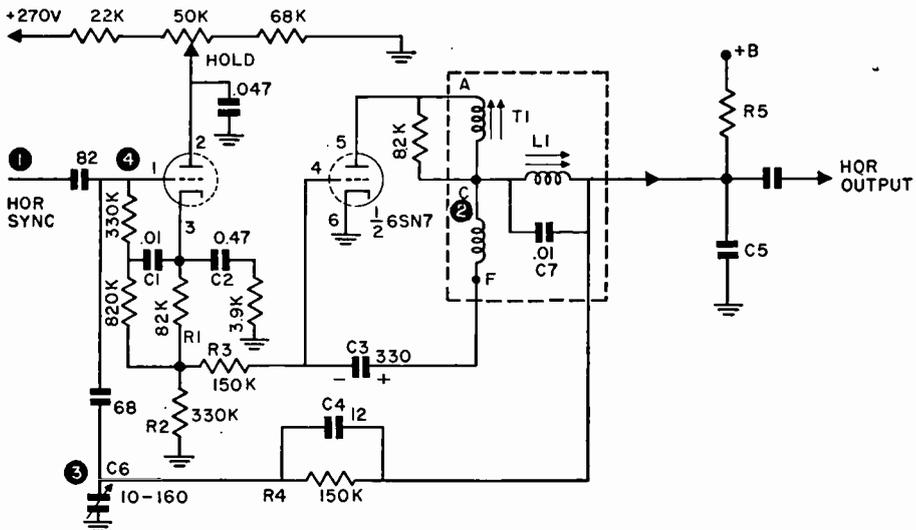
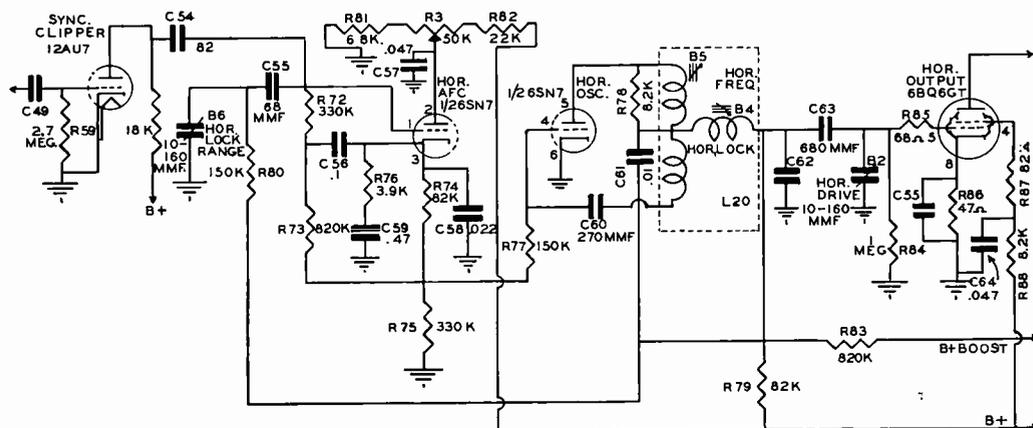

FIG. 1. A typical pulse width horizontal oscillator-afc system.
FIG. 3. Horizontal oscillator-afc section of Admiral Model 19F1.
As every serviceman knows, one of the more common trouble spots in a television receiver is the horizontal oscillator-afc stages. Although various types of circuits are used in these stages, one of the most popular is the pulse width or "Syncro-Guide" circuit shown in Fig. 1.
3. In receivers using a "horizontal range" trimmer condenser such as C6 in Fig. 1, turn the trimmer to its maximum clockwise position (tight) and then back it off $\frac{1}{4}$ turn.
4. Adjust the horizontal oscillator transformer frequency slug (T1 of Fig. 1) until the picture falls into sync.
6. If necessary repeat the adjustment of the transformer slug (TL) until the above conditions are met.
If a scope is available, the incoming sync pulse to the horizontal afc tube should definitely be checked. If the horizontal oscillator is not working at all as indicated by lack of negative grid voltage and a no-raster complaint, the sync pulse can be checked right at the plate of the sync amplifier—at point 1 of Fig. 1. The sync pulse should also be checked at point 4 of Fig. 1. to eliminate the possibility of a short in the grid circuit.
If the horizontal oscillator is working, the sync pulse cannot be validly checked until the sync is disconnected from the horizontal oscillator stage. Of course, this can be easily done by disconnecting the sync pulse feed condenser which in Fig. 1 is the 82-mmf condenser connected to pin 1 of the tube.
ponent will usually affect all operating voltages and waveforms. This particularly applies to all of the troubles except a dead oscillator. When a completely dead oscillator trouble is encountered it is wise to check for plate, cathode, and grid voltages. For example, an open in the horizontal oscillator transformer winding L1 or in resistor R5 would result in lack of plate voltage at pin 5 of the 6SN7 tube (Fig. 1). A voltage check would readily locate this particular trouble. On the other hand, a short in condenser C7 which shunts this particular winding would not seriously affect the plate voltage but would prevent the oscillator from functioning properly.
Resistor R4 in Fig. 1 is sometimes connected from the horizontal output transformer secondary to the grid circuit of the afc tube instead of from the oscillator plate circuit to the grid of the afc tube. If such a circuit variation is used, the resistor is more likely to break down since it is in a high voltage circuit. In addition to breaking down completely, the resistor is also prone to cause picture tearing due to voltage arcs over portions of the resistor body.
After a defective component is located and replaced the controls should be completely readjusted according to the manufacturer's recommended procedure. This usually consists of the previously discussed general method plus adjustment of the oscillator transformer phase slug for proper waveform. For example, coil L1 of Fig. 1 should be adjusted for the waveform shown in section 2 of Fig. 2, with the scope connected between B— and point C of the oscillator transformer. After the first adjustment of the waveform, it should be checked during the adjustments of the other controls since these other adjustments, particularly T1, can alter the waveform.
In order to graphically show some of the troubles that can be encountered in this type circuit, a typical commercial receiver was selected and troubles were deliberately introduced into the horizontal oscillator-afc stages. The receiver chosen was an Admiral Model 19F1. Notice the similarity between this diagram shown in Fig. 3 and the basic circuit shown in Fig. 1. The following table lists the components that were deliberately made effective, the actual defect introduced to the component, and the result so far as the picture was concerned. In all cases, after a defect was introduced all controls were readjusted to attempt to obtain normal operation.